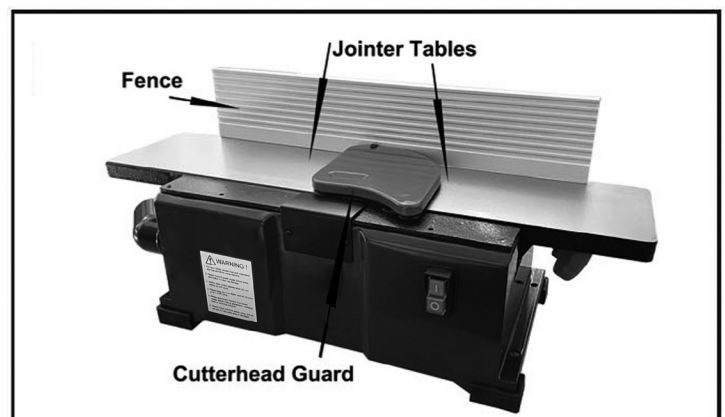

Figure 17. Fence positioned over the jointer tables.
8. Slide the fence forward until it contacts the cutterhead guard. The guard should completely cover the cutterhead, as shown in **Figure 17**.